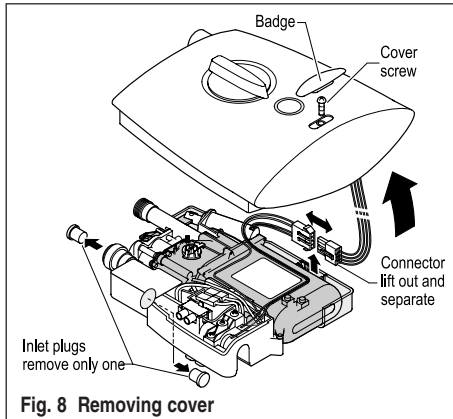

Fig. 8 Removing cover
5.1.1 Remove cover retaining screw and carefully remove cover by pulling up the top edge. Avoid twisting, see fig. 8.
5.1.2 Lift the connector from the back plate and separate connector by pressing on the lock lever, see fig. 8.
5.3.9 Check that the water inlet plug is correctly fitted and pushed fully home, into the inlet not being used - see fig. 8.
5.5.1 An inlet plug should be removed from the chosen inlet port - see fig. 8.